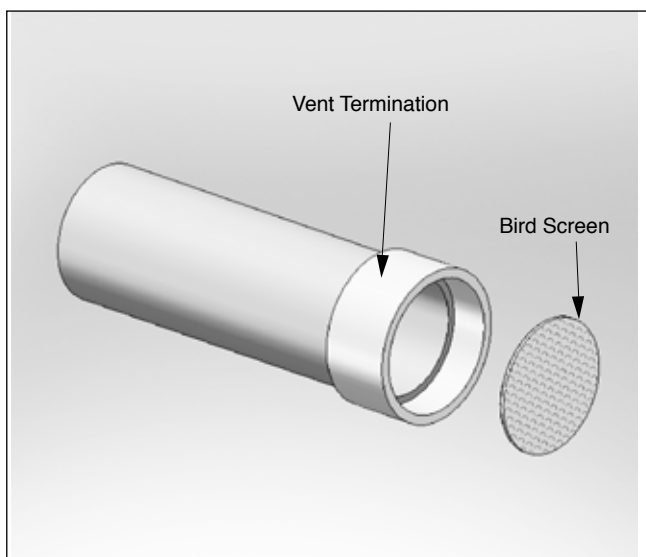
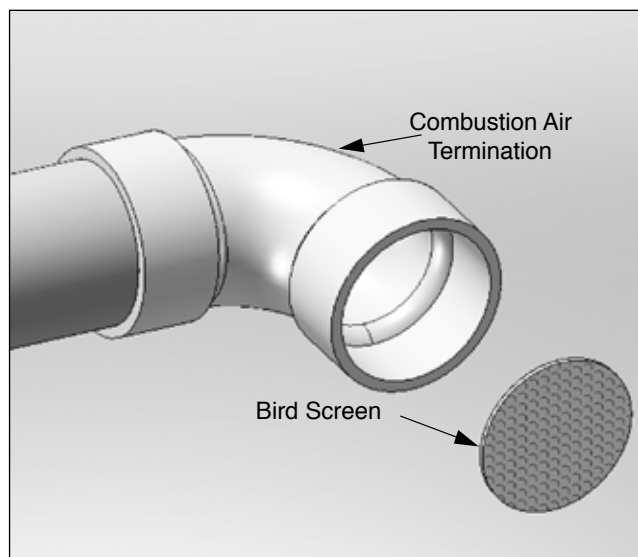

Fig. 9 - Sidewall Vent Bird Screen Installation
Fig. 10 - Sidewall Combustion Air Bird Screen Installation
1. The vent and combustion air terminations must include a factory supplied "bird screen" installed as shown in **Fig. 9** and **Fig. 10 on page 18**.
1. The vent and combustion air terminations must include a factory supplied "bird screen" installed as shown in *Fig. 3 on page 14* & *Fig. 10 on page 18*.